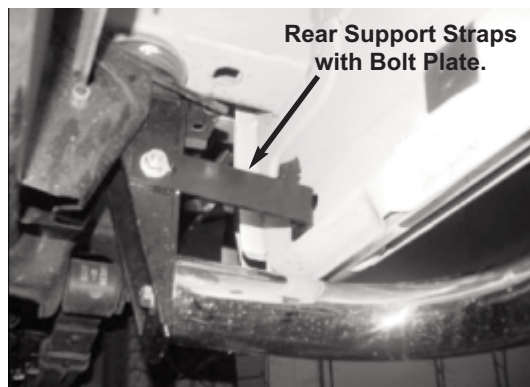

Figure 2 - Rear Bracket (Driver Side)
4. Attach the rear support straps by installing the bolt plate into the rocker panel using (1) M10 flat washer/lock washer and M10 hex nut. Attach the other end of the support straps to the side of the rear brackets using the (1) M10 bolt, (2) M10 flat washer, (1) M10 lock washer and (1) M10 hex nut. (**See Figures 2, 3**) **Note: Not used on Regular Cab models**